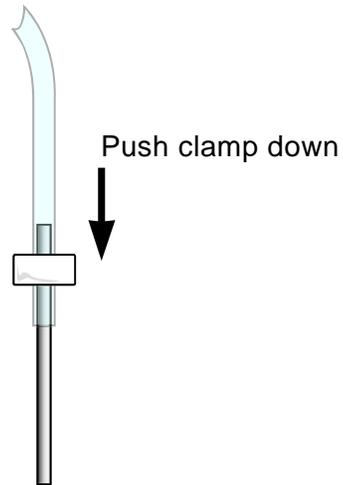

Figure 79. Tubing Clamp Positioning
- 3 Now push the tubing clamp down until it is positioned as shown in Figure 79.